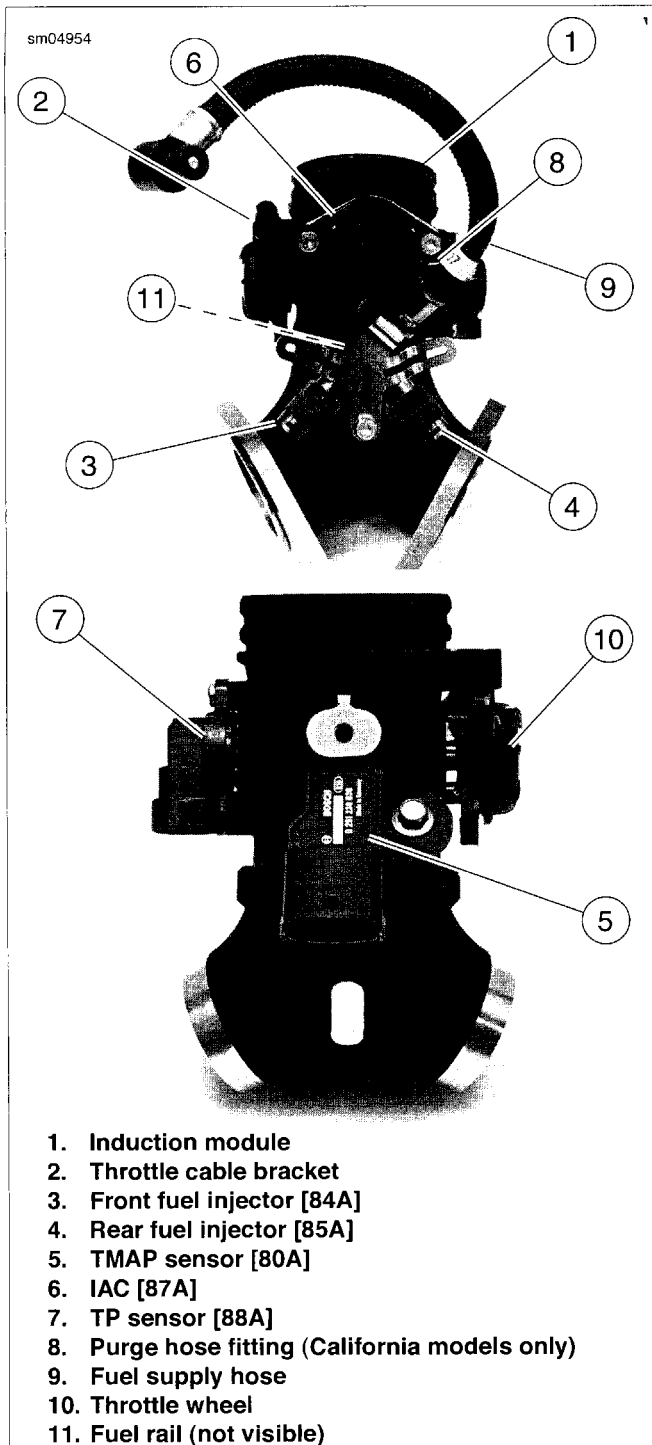
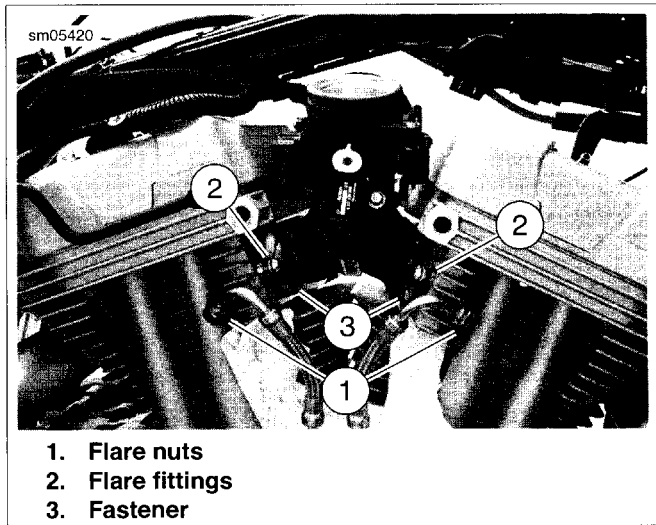

Figure 4-51. Induction Module Assembly (Removed from Vehicle for Clarity)
Figure 4-52. Remove Induction Module
7. See Figure 4-51. Unplug the following connectors:
- a. front fuel injector (3) connector [84],
- b. rear fuel injector (4) connector [85],
- c. TMAP sensor (5) connector [80],
- d. IAC (6) connector [87],
- e. TP sensor (7) connector [88].
8. **California models:** Remove purge hose from fitting (8).
9. See Figure 4-52. Disconnect oil line flare nuts (1) from flare fittings (2) in cylinder heads. Remove flare fittings (2) from cylinder heads.
11. Remove two screws (3) securing induction module to cylinder heads on right side of vehicle.
4. See Figure 4-52. Place induction module assembly in position between engine heads. Slide open slotted ends of mounting flanges under heads of two mounting screws on left side of engine.
5. While holding induction module assembly in place, install two mounting screws (3) into remaining mounting flange holes. Tighten all four screws finger-tight.
7. Inspect O-rings on flare fittings (2) and replace as necessary. Install flare fittings in cylinder heads and tighten to 22-26 ft-lbs (29.8-35.3 Nm).
8. Connect oil line flare nuts (1) to flare fittings (2) and tighten to 13-17 ft-lbs (17.6-23.0 Nm).
11. **California models only:** See Figure 4-51. Install purge hose onto fitting (8) on induction module (1).